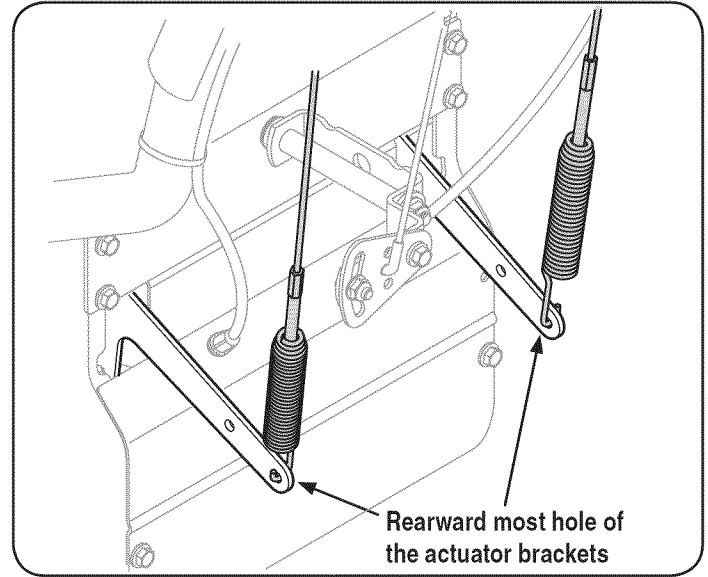

Figure 14
- From beneath the handle, pull downward on the appropriate cable and unhook the spring found on the end of the cable from its respective actuator bracket. Refer to Figures 14 and 15.
- Securely hook each cable's spring into the appropriate hole of the respective actuator bracket. Both cables hook into the rearward-most hole in each bracket, as shown in Figure 14.